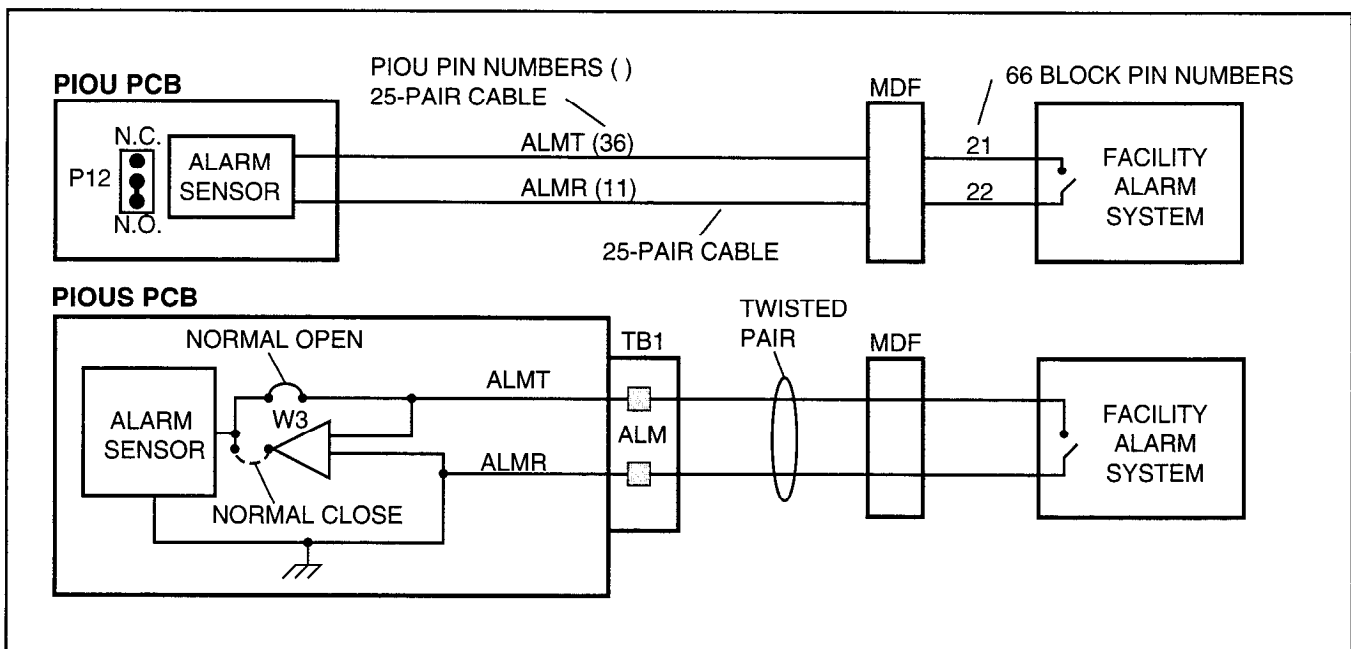

FIGURE 7-23
8.01 Alarm Sensor Options. Jumper plug P12 on the PIOU is used to set the alarm sensor to detect an open or closed condition from the facility alarm system. Set P12 as follows (refer to Figure 7-23):
8.02 Jumper W3 on the PIOUS is used to set the alarm sensor to detect an open or closed condition from the facility alarm system. Solder the W3 jumper wire as follows (refer to Figure 7-23):
8.03 Alarm Sensor Wiring. Refer to Figure 7-23, and connect the facility alarm system relay contacts to the PIOU/PIOUS PCB.